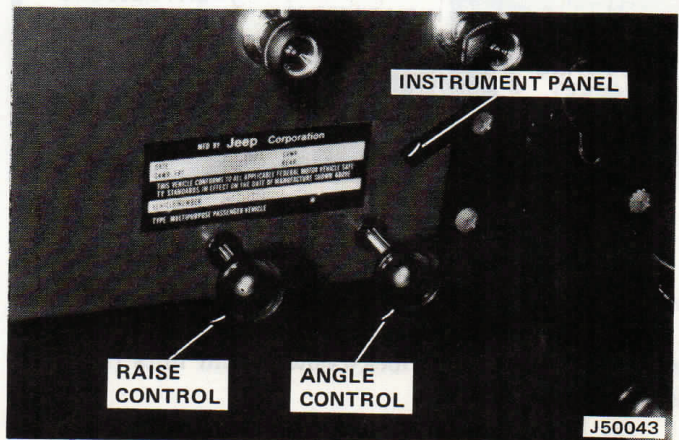
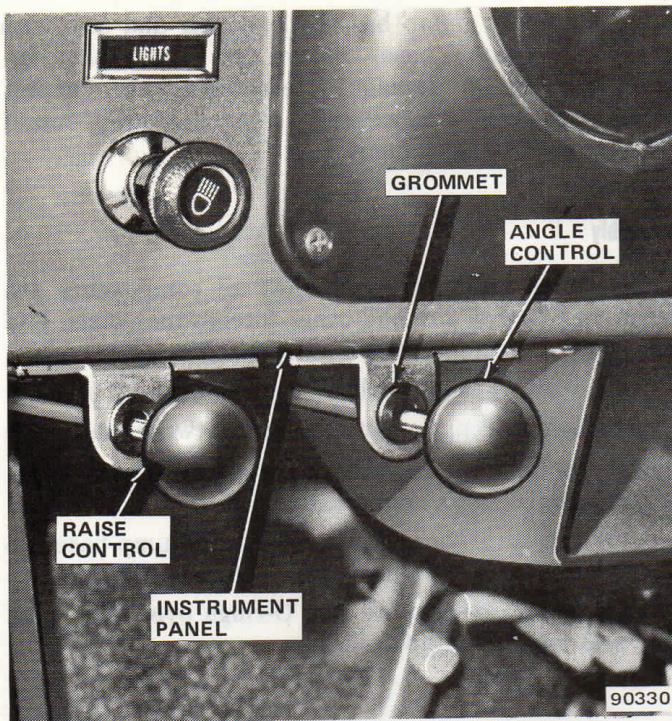

Fig. 1-42 Control Rods Installation Through Instrument Panel
Fig. 1-43 Control Rods Installation Under Instrument Panel
(23) Install hydraulic hoses to angling rams and junction block.
NOTE: Control rods may be installed by either of two methods: (1) by drilling holes through instrument panel (fig. 1-42) or (2) under the instrument panel by use of mounting brackets (fig. 1-43).